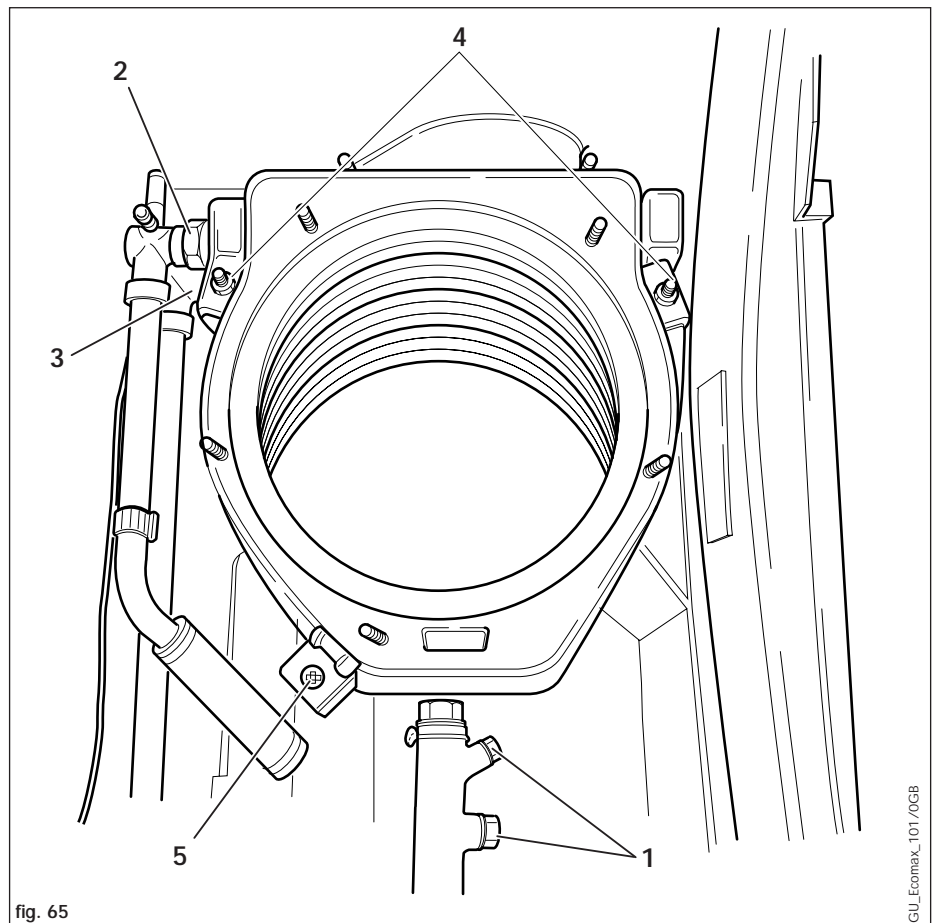

fig. 65
- Unscrew NTC sensor (1) or (2).
7.8 REPLACEMENT OF MAIN HEAT EXCHANGER (FIG. 65)
- Disconnect two condensate connection unions (1).
- Disconnect primary flow connection (2) from main heat exchanger. (A flexible connection has been provided in the flow pipe to allow easier access to the return connection. The flow pipe can be carefully eased out of the way by bending at the flexible connection).
- Disconnect primary return connection (3) from main heat exchanger.
- Slacken the two securing bolts (4) and rotate clamps away from heat exchanger.